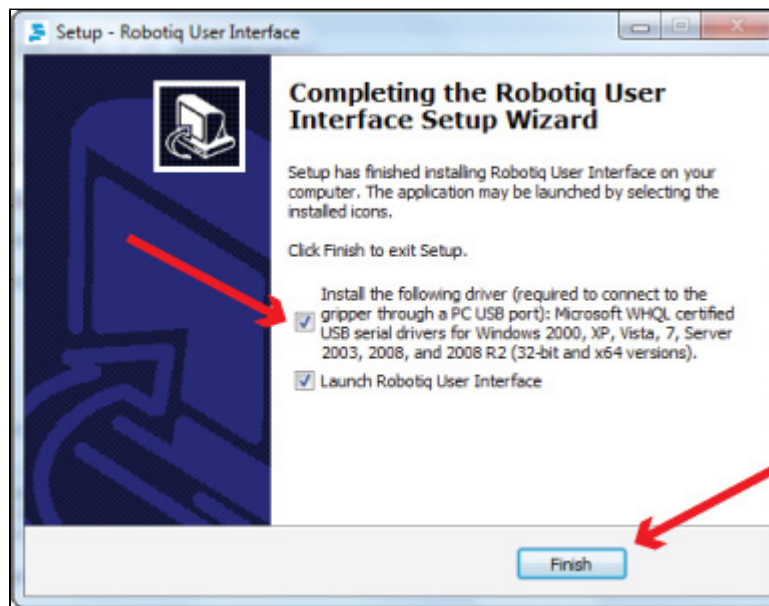

Figure 5.2.1 Completing the installation of Robotiq User Interface
4. After installation is completed you can launch the Robotiq User Interface, if you do not have the required drivers for the USB connection of the Gripper, please select the box shown in figure 5.2.1.
To use the Modbus RTU communication via the USB port, you need to select the driver installation shown in figure 5.2.1